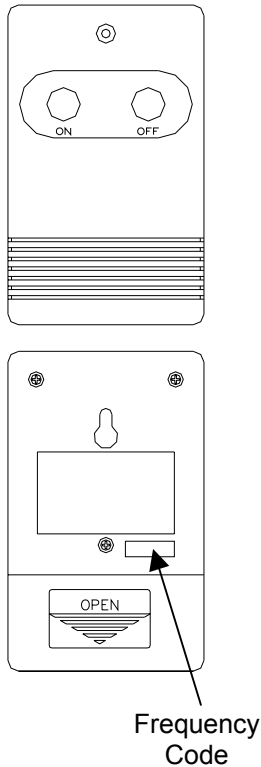

FIGURE 3
The remote control has a range of approximately 50ft. (15.25m). It does not have to be pointed at the fireplace and can pass through most obstacles (including walls). It is supplied with one of 243 independent frequencies to prevent interference with other units. The frequency designation is indicated on the back of the transmitter (FIGURE 3).
6. Press the ON button located on the remote control transmitter (FIGURE 3). This will synchronize the remote control transmitter and receiver.